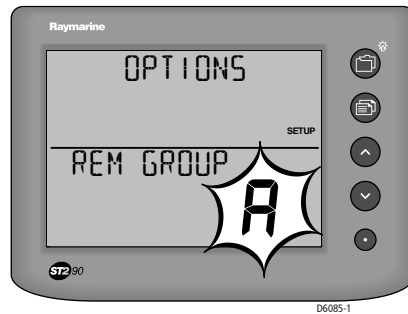

Figure 3-11: Set remote group
1. Ensure the REM GROUP page is displayed (see *Figure 3-11*). This enables you to allocate the instrument as part of a remotely controlled group.